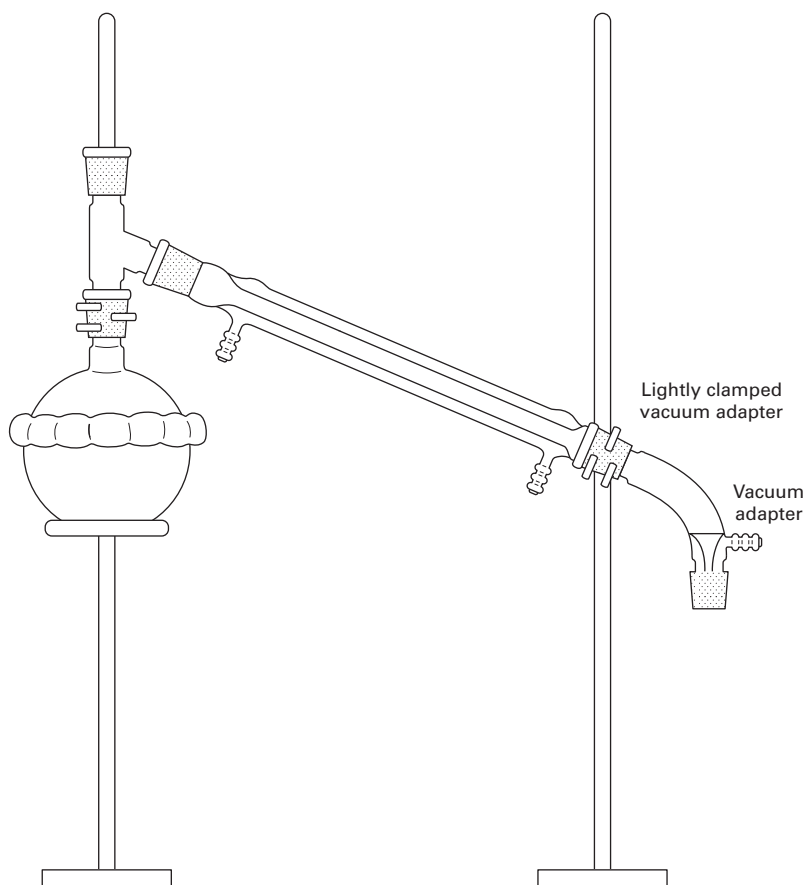

FIGURE 18.7 Correctly clamping the vacuum adapter.
7. Put a vacuum adapter on the end of your condenser, and hold it there. Put the top of the condenser (outer joint) onto the three-way adapter, and get the vacuum adapter joint cradled in the clamp you've set for it. Push the condenser/vacuum adapter toward the three-way adapter; lightly tighten the clamp on the vacuum adapter. The clamp *must* stop the vacuum adapter from slipping off the condenser (Fig. 18.7).